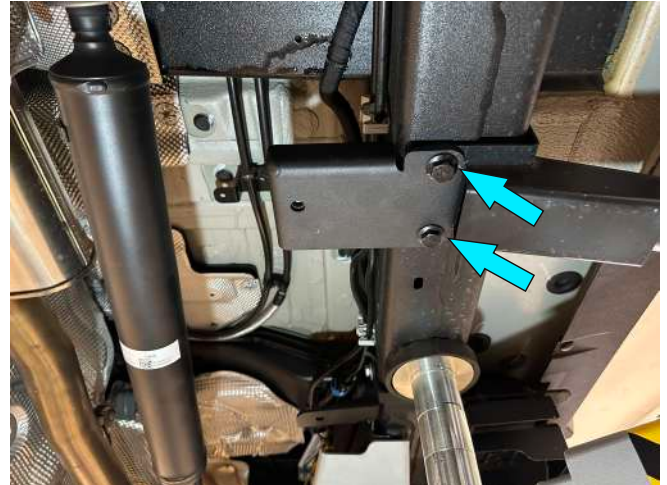

Fig. 11
11. If factory side steps are pre-installed on vehicle, install bracket 1 (item 5) over factory side step brackets as shown in fig.11. Secure bracket 1(item 5) using factory hardware.